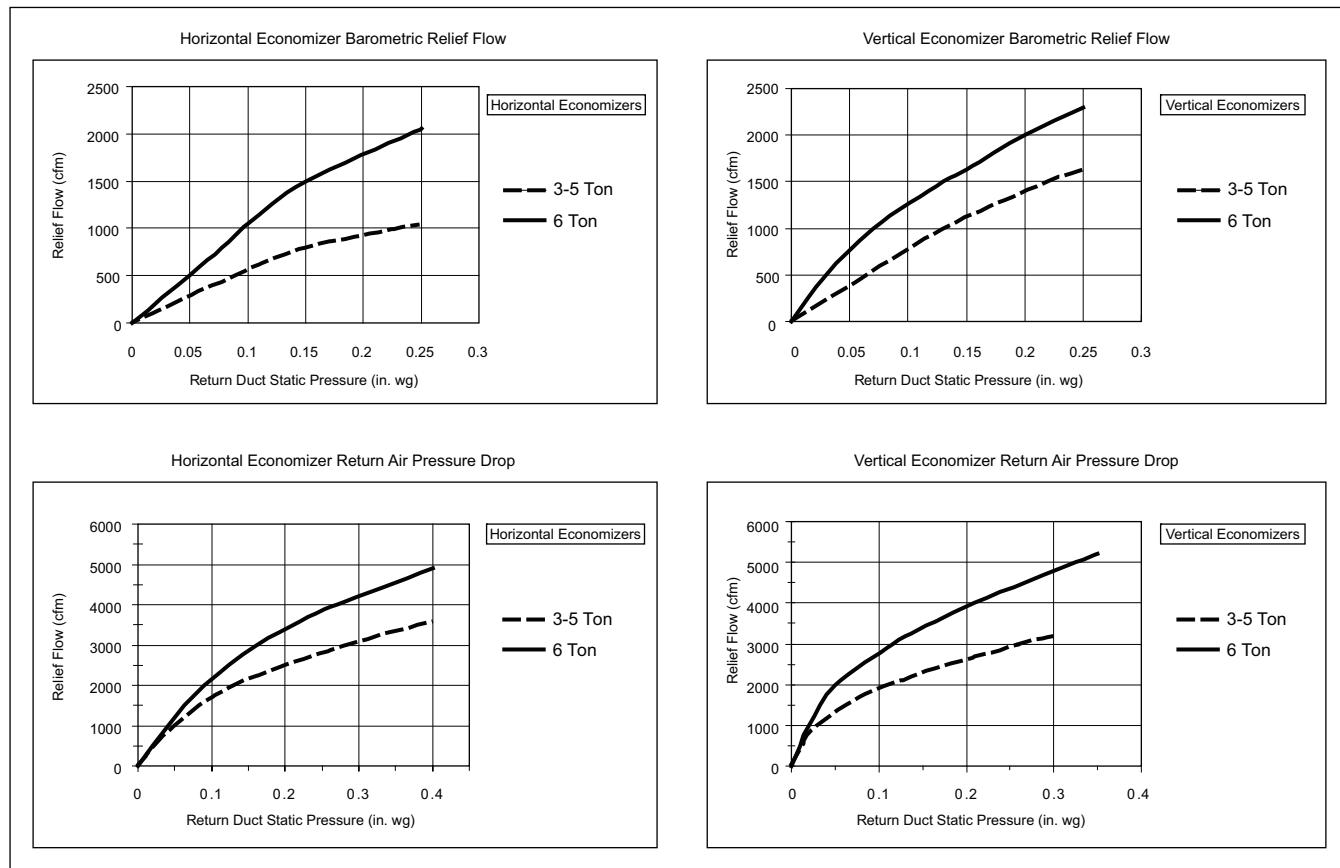

Fig. 61 — Outdoor-Air Damper Leakage
The standard controller is shipped from the factory configured for outdoor dry bulb changeover control. For this control mode, the outdoor temperature is compared to a selectable set point on the OAT sensor. If the outdoor air temperature is above the set point, the EconoMi\$er IV will adjust the outdoor air dampers to minimum position. If the outdoor air temperature is below the set point, the position of the outdoor air dampers will be controlled to provide free cooling using outdoor air. When in this mode, the Free Cool LED next to the outdoor enthalpy set point (ABCD) potentiometer will be on. The changeover temperature set point is controlled by the DIP switches on the sensor. See Fig. 60 for the switch positions corresponding to the temperature changeover values. The ABCD potentiometer on the controller should be turned fully clockwise (CW) to the "D" position. See Fig. 61 for damper leakage.